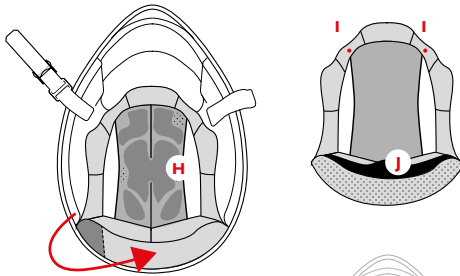

FIGURE 7
**Inner central padding: INNER SHELL — H — Figure 7/8****Assembly and disassembly**
**Removing the inner padding — Figure 7**